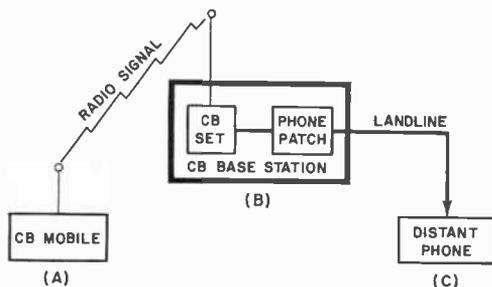

Fig. 1. How phone patch works. Mobile CB (A) talks directly to any phone (C) by going through base station and patch at (B).
**How It Works.** You can see how the whole system works in Fig. 1. Let's say the CB'er at an accident scene wants to speak by telephone to a distant party. He first contacts another CB'er known to have a base station fitted with a patch. The operator on base responds by dialing the phone number and turning on his patch.